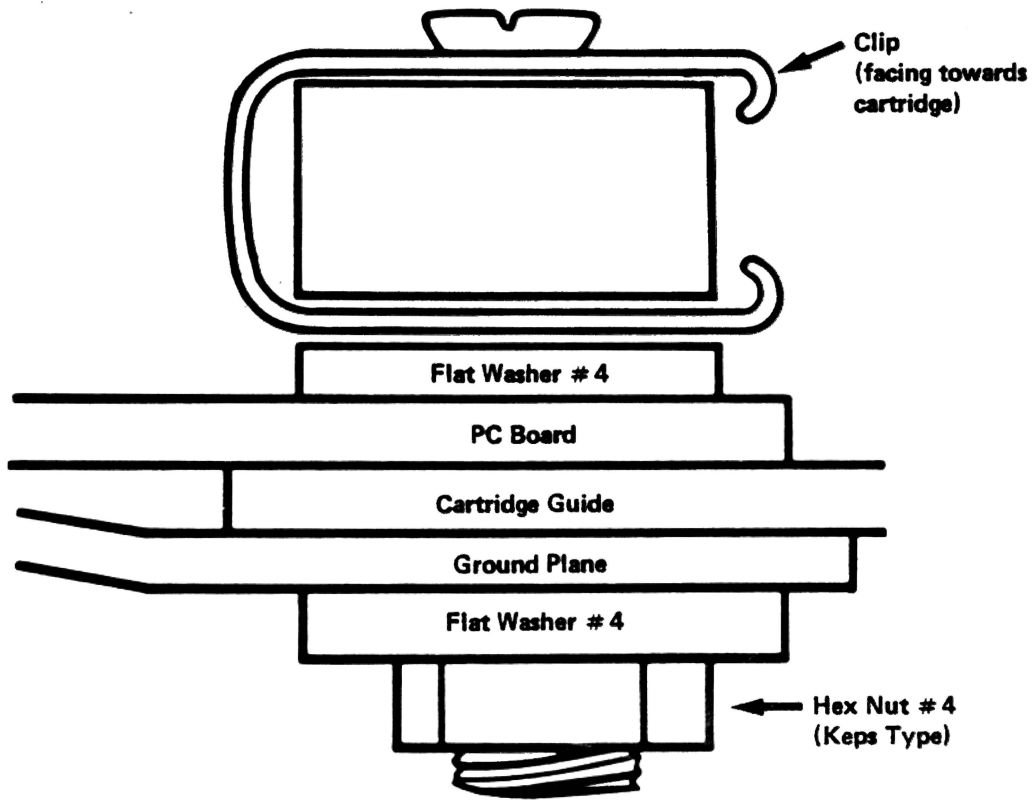

FIGURE 1
- (1) Remove the case top. Remove the 9 mounting screws securing the PCB. Remove the PCB from the case, and turn it upside down. Remove the two hex nuts securing the Cartridge Guide to the PCB, and remove the Cartridge Guide. Remove the long screws and washers from the Cartridge Connector, and save them to be used later.
- (2) Insert a small flat blade screwdriver between the PCB and the cartridge connector, then twist the screwdriver GENTLY to slightly separate the PCB and the connector. Use a thin bladed knife (an X-ACTO knife, or something similar) and scrape away the green solder mask from the ground foil immediately under the ends of the connector. Scrape away an area slightly larger than the small washer removed in Step 1.
- (3) Put one RFI clip on each end of the Cartridge Connector, and install the small washer between the RFI clip and the PCB (see Figure 1). The open side of the RFI clip should face towards the cartridge. Insert the long screw through the RFI clip, the cartridge connector, the small washer, the PCB and the PCB shield. Insert the Cartridge Guide between the PCB and the PCB shield. Install a large washer and nut on the long screw.
- (4) Install the PCB into the case bottom. Attach the case top.